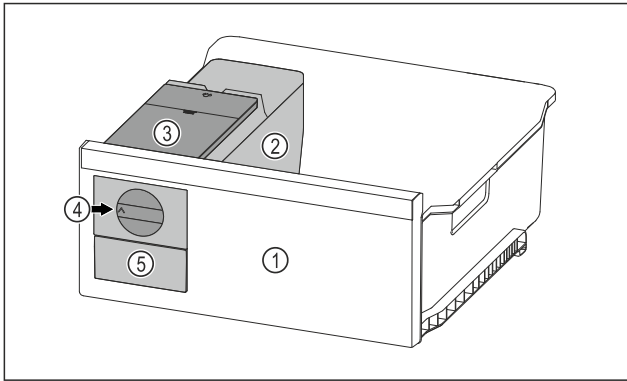

Fig. 108 Example illustration
- ▶ Turn the rotary knob Fig. 108 (4) clockwise as far as it will go.
▷ Ice cubes fall from the ice cube tray into the ice cube drawer Fig. 108 (5).